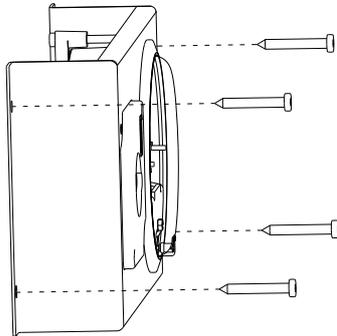

Figure 1
1. Installation method: As shown in Figure 1, use the 4 long screws in the accessory kit to fix the product on.